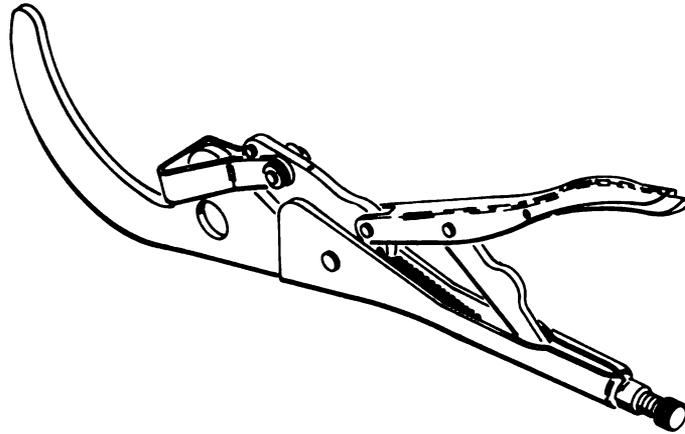

Figure 1-13. Hose Skiving Tool.
(2) *Hose end preparation.* Hose end preparation (skiving) involves taking the rubber cover from the hose, near the end. This is done so that the hose coupling can grip the wire reinforcement. In the HSTRU, skiving is done with a skiving tool (see figure 1-13). This tool clamps over the outside diameter of the hose and has a knife edge set parallel to the hose centerline. Rubber strips are peeled off with each twist of the tool around the hose circumference. The skiving tool can be set for any hose up through 2 in. I.D. by a simple screw adjustment. The cutting blade can be sharpened with a file. A spare blade is stored in the box with the skiving tool.